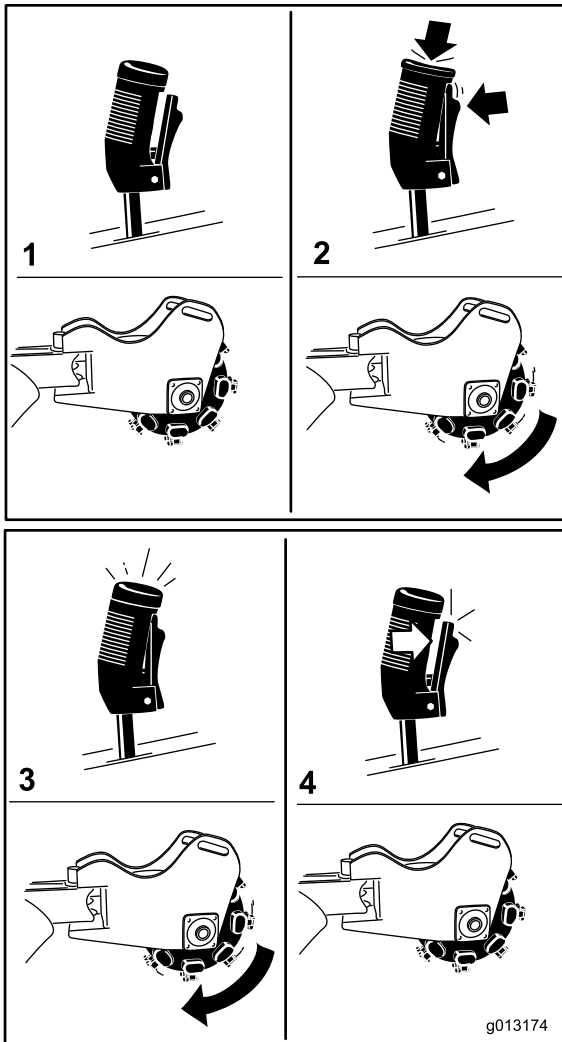

Figure 11
- To start the grinder (Figure 11), squeeze the trigger and then press the red button on the top of the lever. Once the grinder has started, you can release the red button.
- To stop the grinder (Figure 11), release the trigger for more than a half second.